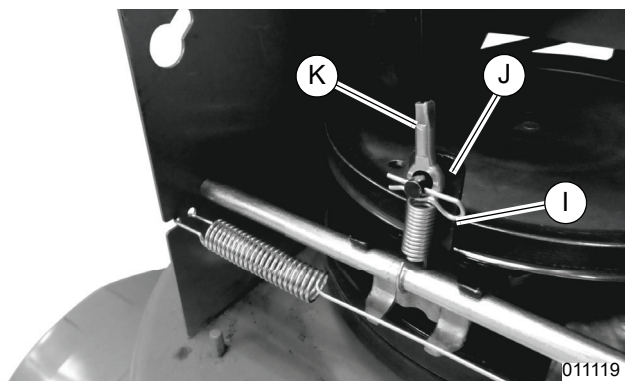

Figure 4-23. Removing Pin and Traction Cable
8. See Figure 4-23. Remove pin (I) and traction cable (K) from traction drive bracket (J).